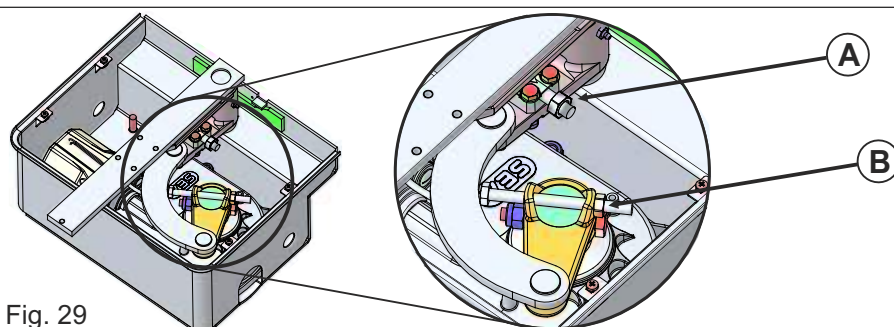

Fig. 29
7.1. OPENING LIMIT SWITCH: To adjust the opening limit switch, bring the leaves to the fully open position and act on the screw «A», increasing or decreasing the tightening using the bolt (Fig. 29)
7.2. CLOSING LIMIT SWITCH: To adjust the closing limit switch, bring the leaves to the fully closed position and act on the screw «B», increasing or decreasing the tightening using the bolt (Fig. 29)